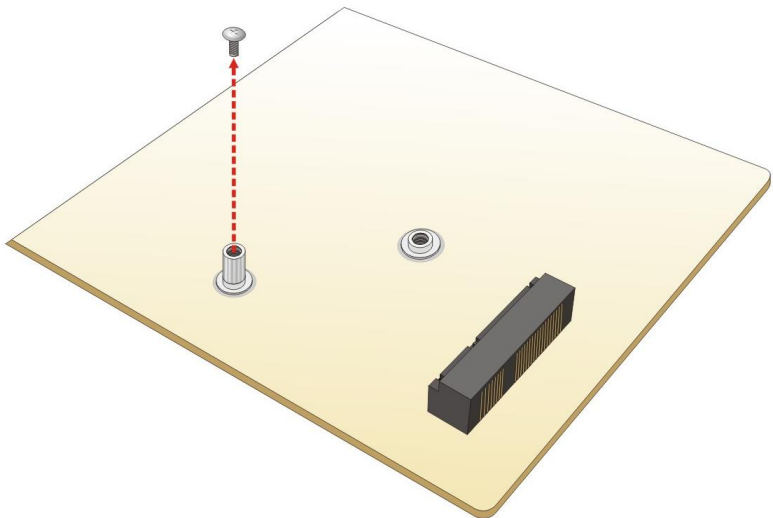

Figure 4-7: Removing the Retention Screw
- Step 2:** Remove the retention screw. Remove the retention screw as shown in **Figure 4-7**.
Step 2: Remove the retention screw. Remove the retention screw as shown in **Figure 4-7**.